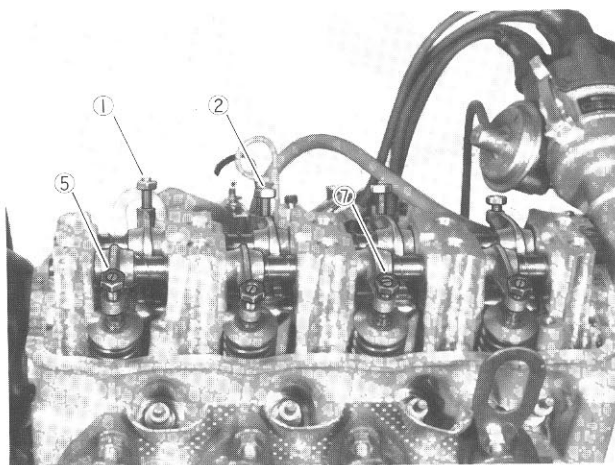

Fig. 3-149
Remove the plug—ignition timing check hole plug—provided at the joint between engine and transmission to gain visual access to the "T" mark. Turn over crankshaft to index mark ① to stationary mark ⑪, and see if the rocker arms of No. 1 cylinder are off the respective cam lobes (of camshaft); if so, valves ①, ②, ⑤ and ⑦, Fig. 3-149, are ready for clearance checking and adjustment: if not, turn over crankshaft further by 360° to index mark ① to mark ⑪ again. This 360° turning should bring about the desired state (in which the four valves are ready for checking and adjustment).